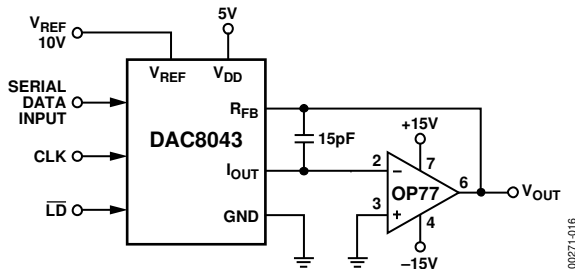
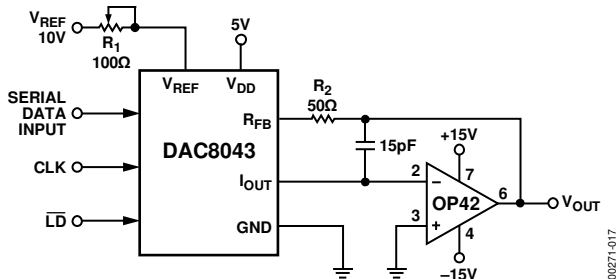
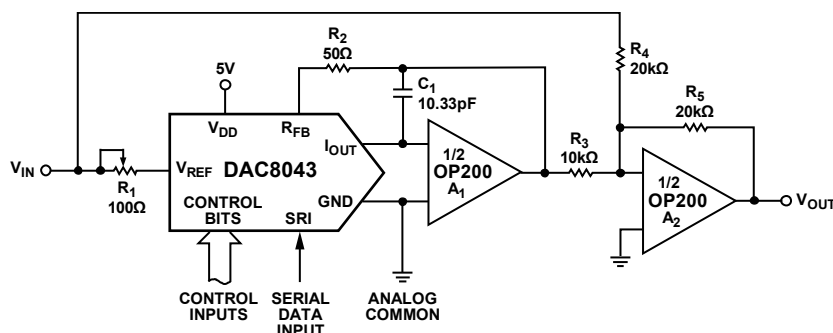

Figure 16. Unipolar Operation with High Accuracy Op Amp (2-Quadrant)
Figure 17. Unipolar Operation with Fast Op Amp and Gain Error Trimming (2-Quadrant)
Figure 19. Bipolar Operation (4-Quadrant, Offset Binary)
1. Phase compensation (see Figure 16 and Figure 17).
In most applications, linearity depends upon the potential of the  $I_{OUT}$  and GND pins being equal to each other. In most applications, the DAC is connected to an external op amp with its noninverting input tied to ground (see Figure 16 and Figure 17). The amplifier selected should have a low input bias current and low drift over temperature. The amplifier's input offset voltage should be nulled to less than 200  $\mu$ V (less than 10% of 1 LSB).
The circuits shown in Figure 16 and Figure 17 may be used with an ac or dc reference voltage. The output of the circuit ranges between 0 V and approximately  $-V_{REF}$  (4095/4096), depending upon the digital input code. The relationship between the digital input and the analog output is shown in Table 6. The limiting parameters for the  $V_{REF}$  range are the maximum input voltage range of the op amp or  $\pm 25$  V, whichever is lowest.
Gain error may be trimmed by adjusting  $R_1$ , as shown in Figure 17. The DAC register must first be loaded with all 1s.  $R_1$  may then be adjusted until  $V_{OUT} = -V_{REF}$  (4095/4096). In the case of an adjustable  $V_{REF}$ ,  $R_1$  and  $R_2$  may be omitted, with  $V_{REF}$  adjusted to yield the desired full-scale output.
1 Nominal full scale for Figure 16 and Figure 17 circuits is given by
2 Nominal LSB magnitude for Figure 16 and Figure 17 circuits is given by
Figure 19 details a suggested circuit for bipolar, or offset binary, operation. Table 7 shows the digital input to analog output relationship. The circuit uses offset binary coding. Twos complement code can be converted to offset binary by software inversion of the MSB or by the addition of an external inverter to the MSB input.
MSB      LSB	(V OUT as Shown in Figure 19)
1 Nominal full scale for Figure 19 circuits is given by
2 Nominal LSB magnitude for Figure 19 circuits is given by
The transfer function for the DAC8043 connected in the multiplying mode, as shown in Figure 16, Figure 17, and Figure 19, is